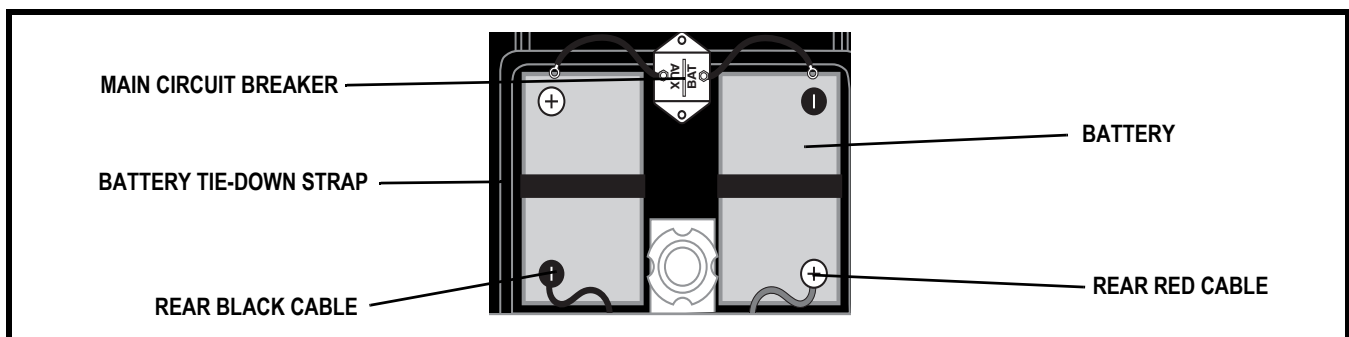

Figure 8. Placing and Removing Batteries
2. Place the batteries into the battery wells with the terminals facing away from the seat post. Be sure that the positive (+) terminal of the left side battery and the negative (-) terminal of the right side battery are facing forward. **See figure 8.**